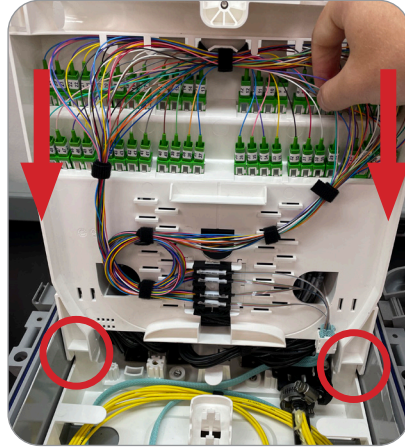

Figure 58
2. Position the interconnect tray over the hinges and using slight force downward, re-attach the interconnect tray (Figure 58).